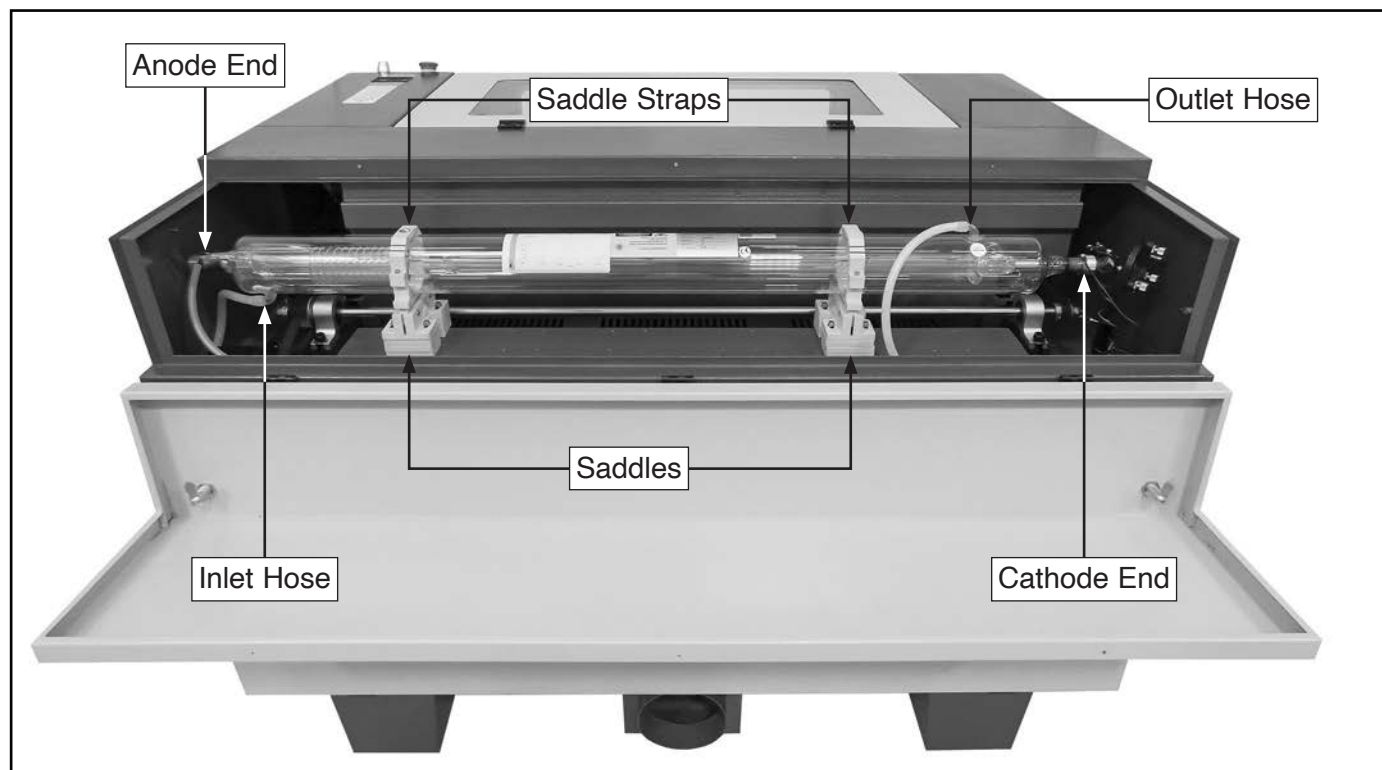

Figure 96. Laser tube compartment identification (G0873 shown).
1. Inspect laser tube saddles and rubber pads for any debris or foreign material, and clean as required (see **Figure 96**).
4. Carefully remove laser tube from shipping container, and position anode-end on anode side of tube compartment (see **Figure 96**).
6. Position cathode-end of laser tube so there is a gap of approximately 1"–2" between end and center of first mirror (see **Figure 96**).